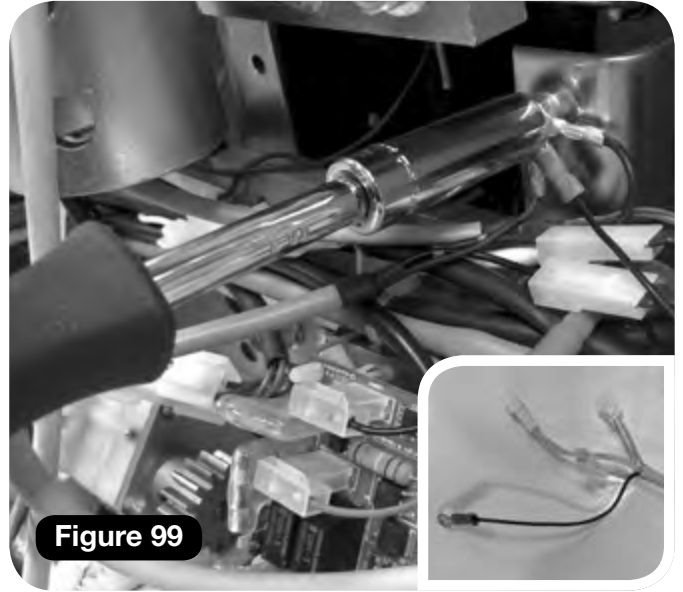

Figure 99
- 7 Seat Loom 1. Connect earth to chassis earth stud and secure with nut (**Figure 99**).